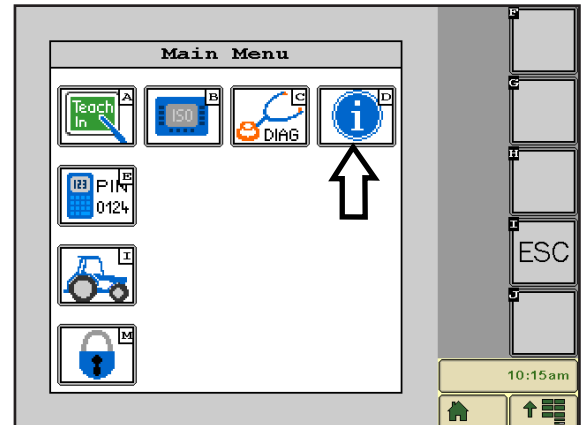
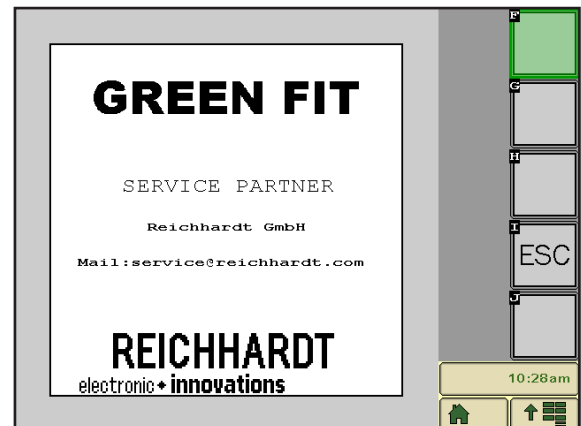

Fig. 25: Accessing system information
Fig. 26: Service partner
Select the i symbol (D), to access the system information (see Fig. 25) and display the service partner (see Fig. 26).